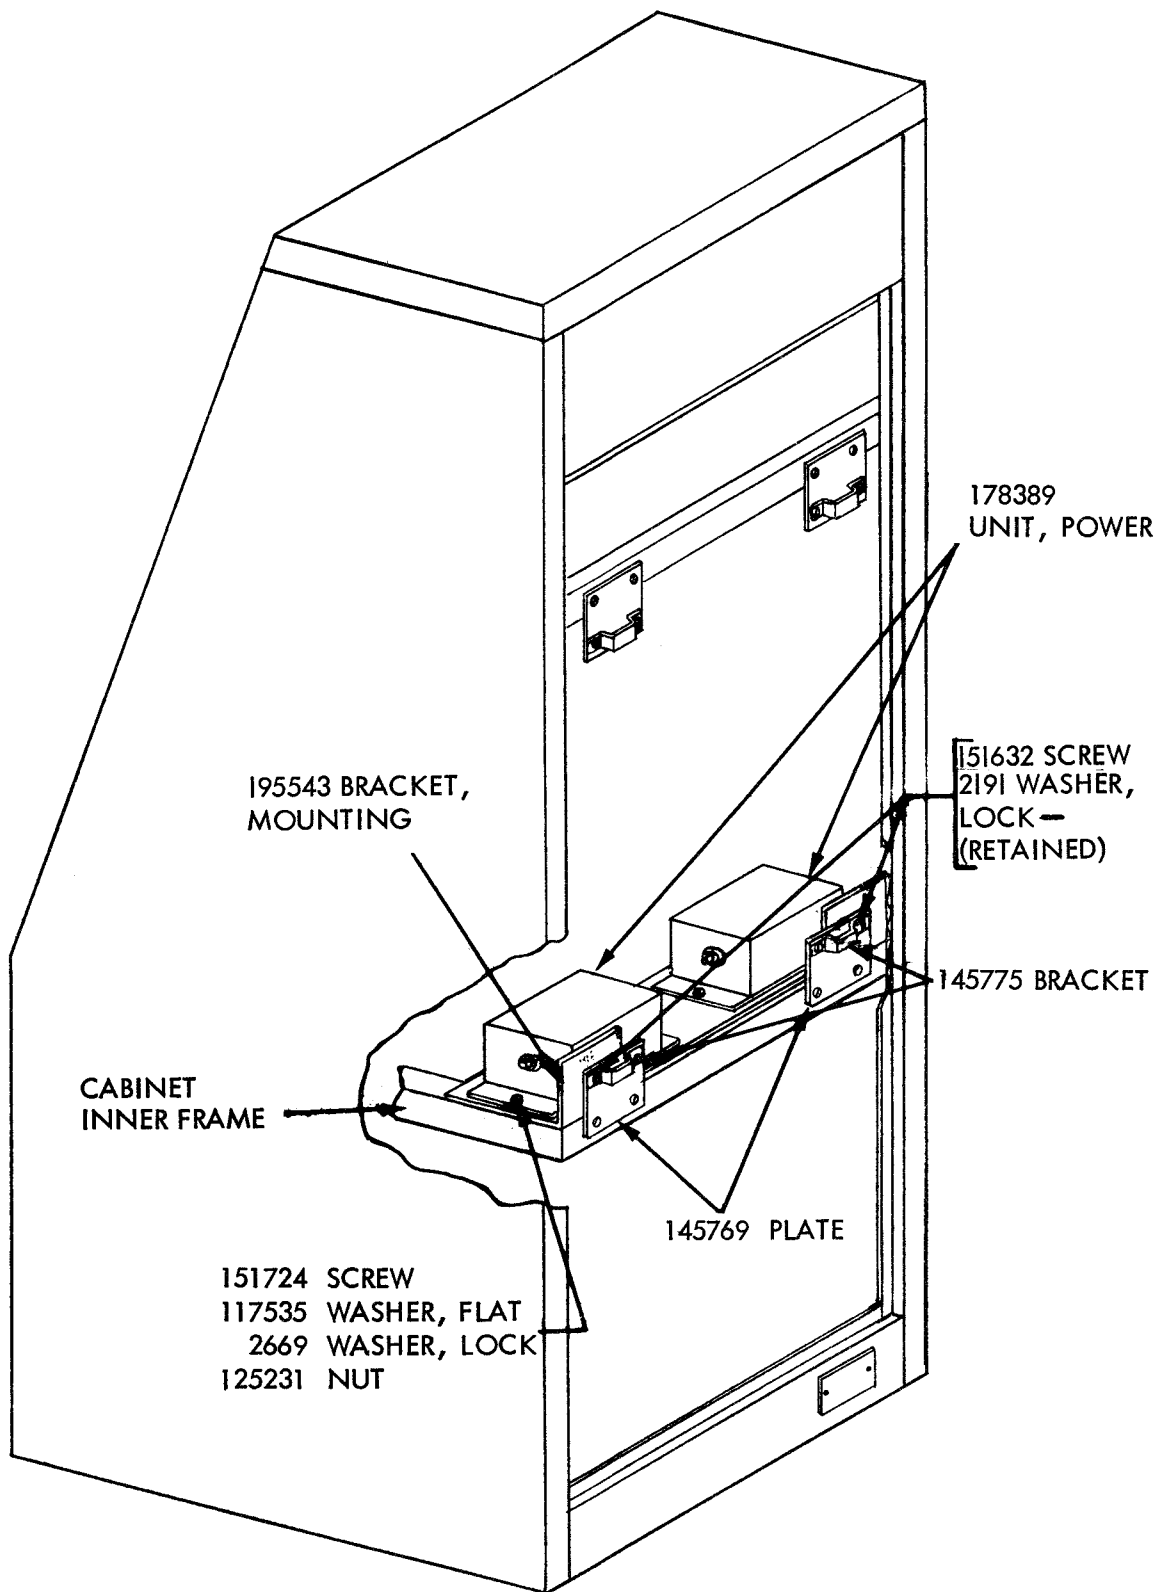

FIGURE 1. POWER UNITS INSTALLED IN CABINET LBAC247**
2. INSTALLATION (Figures 1,2 and 3)
a. 195543 MOUNTING BRACKET (Figure 1) - Remove and discard the two outer 151630 Screws that secure the 145775 Brackets to the 145769 Plates; retain the two 2191 Lock Washers. Install the 195543 Mounting Bracket on the inner frame of the cabinet (directly to the rear of the bottom typing unit position) and secure to the 145775 Brackets and 145769 Plates using two 151632 Screws and the retained 2191 Lock Washers.
b. 178389 POWER UNIT (Figure 1) - With the outlet of the 178389 Power Unit toward the right side of the cabinet, mount the power unit on the 195543 Mounting Bracket using two 151724 Screws, 117535 Washers, 2669 Lock Washers and 125231 Nuts.